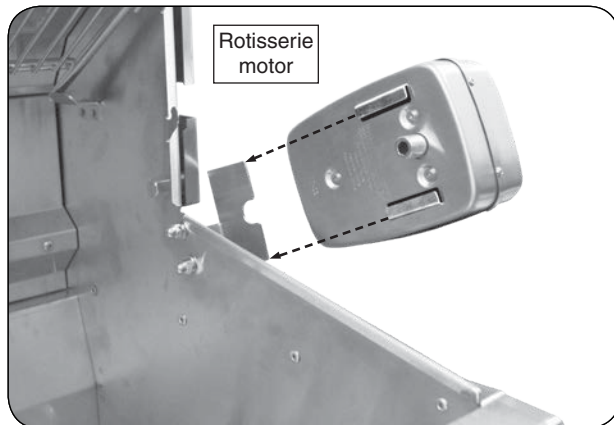

Fig. 27-2 Install rotisserie motor
2. Slide the rotisserie motor fully onto the motor bracket located on the right side of the grill (see Fig. 27-2) and connect it to a power source (do not turn on).